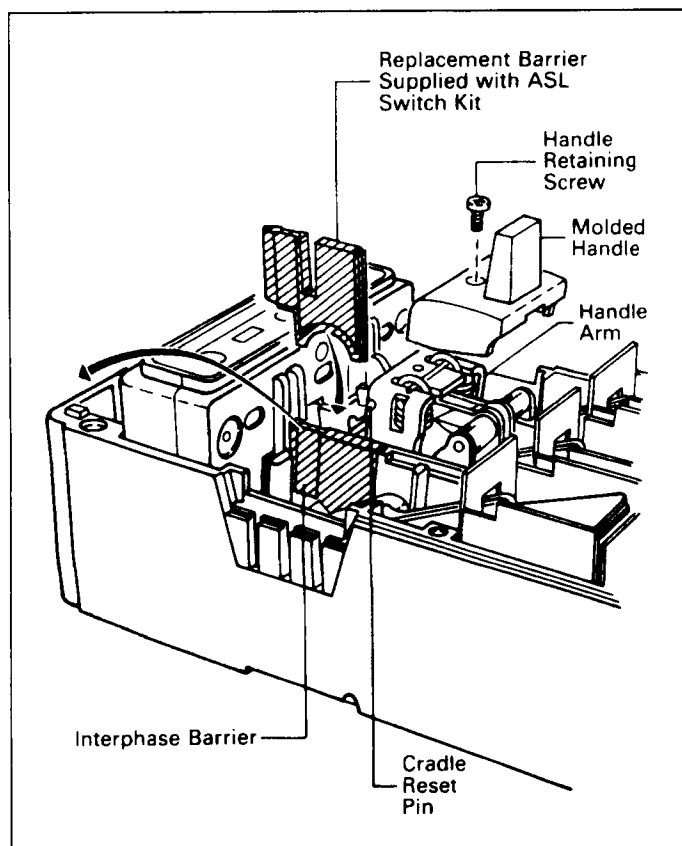

Fig. 2-3. Interphase Barrier Replacement
- 2-7. Remove handle-retaining screw and molded handle from handle arm. (See Fig. 2-3.)
- 2-8. Remove interphase barrier between center pole and pole in which accessory is to be mounted. (See Fig. 2-3.)
- 2-9. Install replacement interphase barrier supplied with kit in base. (See Fig. 2-3.)